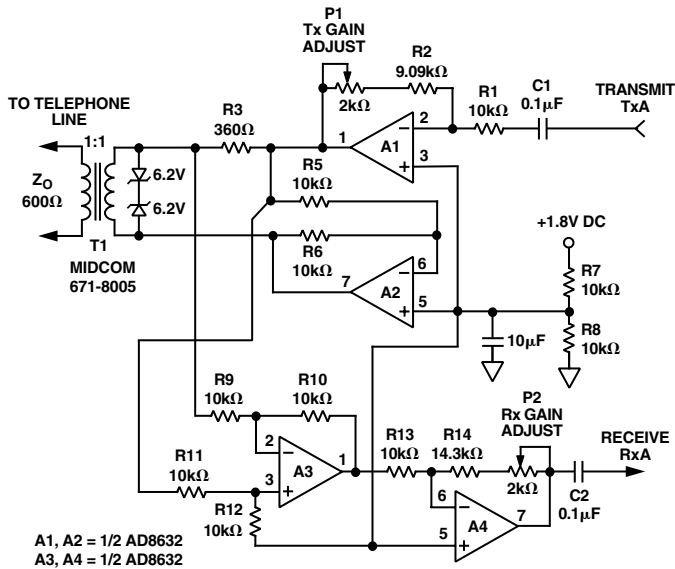

Figure 31. A Single-Supply Direct Access Arrangement for Modems
Figure 31 illustrates a 1.8 V transmit/receive telephone line interface for 600 Ω transmission systems. It allows full duplex transmission of signals on a transformer-coupled 600 Ω line in a differential manner. Amplifier A1 provides gain that can be adjusted to meet the modem output drive requirements. Both A1 and A2 are configured to apply the largest possible signal on a single supply to the transformer. Amplifier A3 is configured as a difference amplifier for two reasons: (1) It prevents the transmit signal from interfering with the receive signal and (2) it extracts the receive signal from the transmission line for amplification by A4. A4's gain can be adjusted in the same manner as A1's to meet the modem's input signal requirements. Standard resistor values permit the use of SIP (Single In-line Package) format resistor arrays. Couple this with the AD8631/